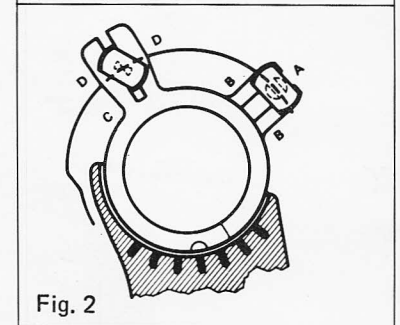

Fig. 2
**Note:** See stud "A" (Fig. 2) and note the absence of a hairspring stud screw.